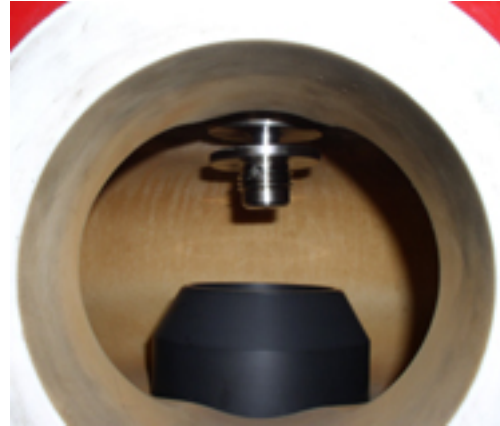

Fig. 23
- Undo adjusting screw **538** (turn out of the spring bonnet **513**) until the distance between the upper edge of the insert sleeve and the edge of the stem guide is approx. 5 mm. See Fig. 23.